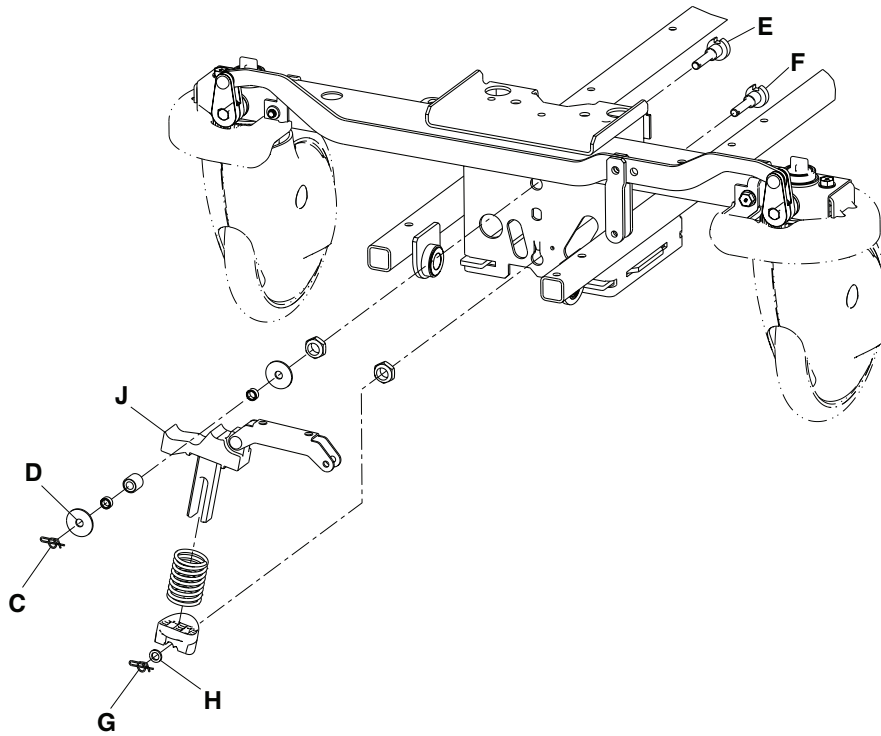

Figure 4 – Remove the brake cam and link assembly
5. Using needle nose pliers, remove the rue ring cotter (A) and clevis pin (B) that secure the brake cam and link assembly to the brake rod (Figure 4).